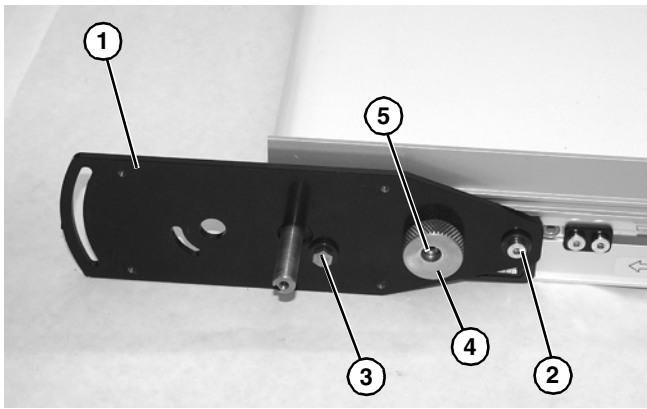

Figure 17
1. Install slave drive plate (Figure 17, item 1) onto drive end of driven conveyor.
2. Install washer and M6x25 low head capscrew (Figure 17, item 2). Do not tighten.
3. Install washer and M6x25 hex head capscrew (Figure 17, item 3). Do not tighten.
4. Install cam knob (Figure 17, item 4) with M6x25 low head capscrew (Figure 17, item 5). Do not tighten.